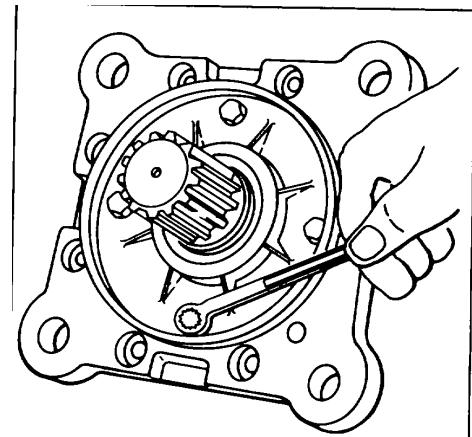

Figure 204.
12. Invert shaft/adapter assembly. Remove four hex bolts (48) and lock washers (47). See Fig. 204.